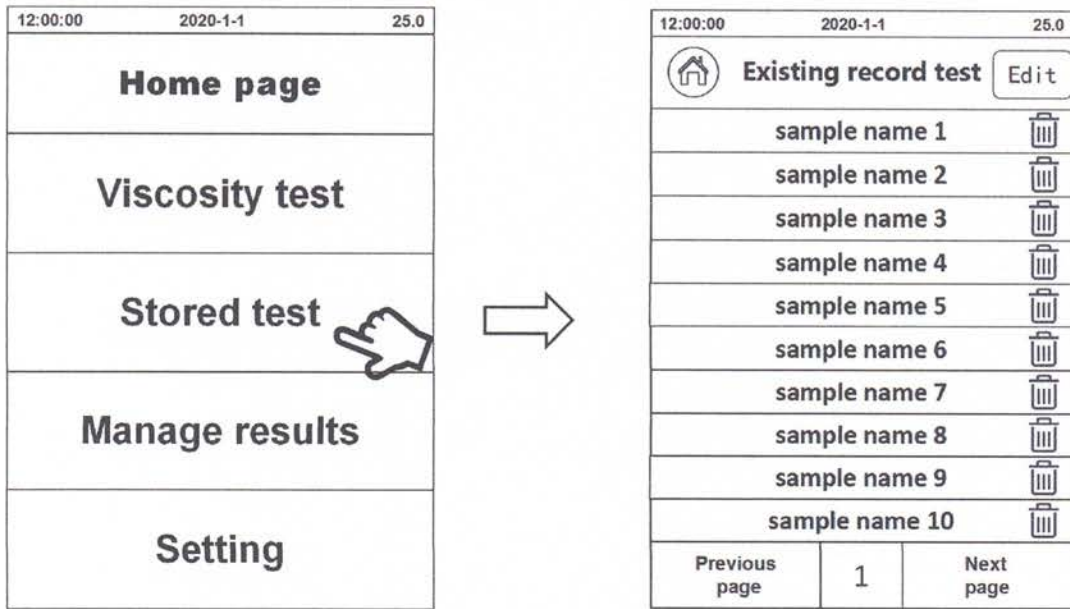

Fig. 24
6.2 View and recall test condition records: After clicking “Stored test”, the stored test records will be displayed on the screen (Fig.24), and select the required test conditions. Click "Edit", the  icon will appear to delete the stored test conditions.